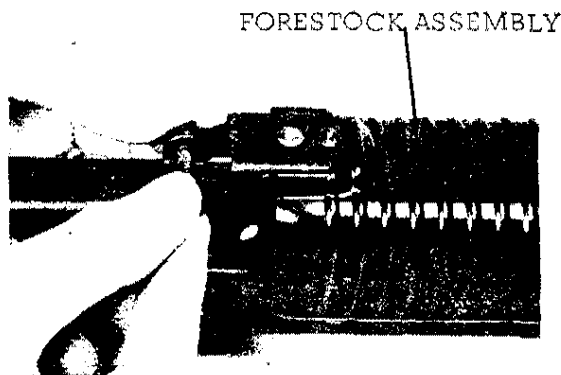

FIGURE 17. PIVOT PIN SCREW AND NUT
- (2) Unscrew the forestock pivot pin screw from the pivot pin nut (figure 17) and remove the forestock assembly.